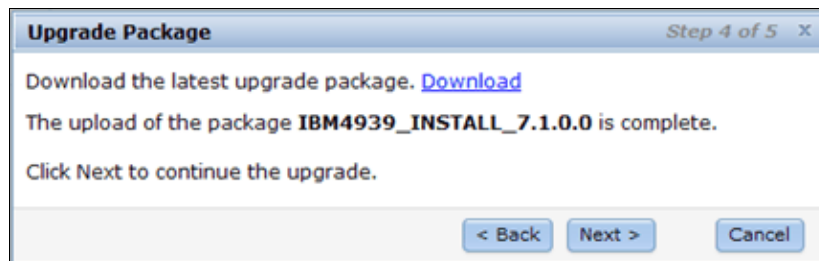

Figure 13-21 Step 4 of 5 - Upload the upgrade package to the system
9. Click **Next** to upload the upgrade package to the system and then click **Browse** to select a file, as shown in Figure 13-21.